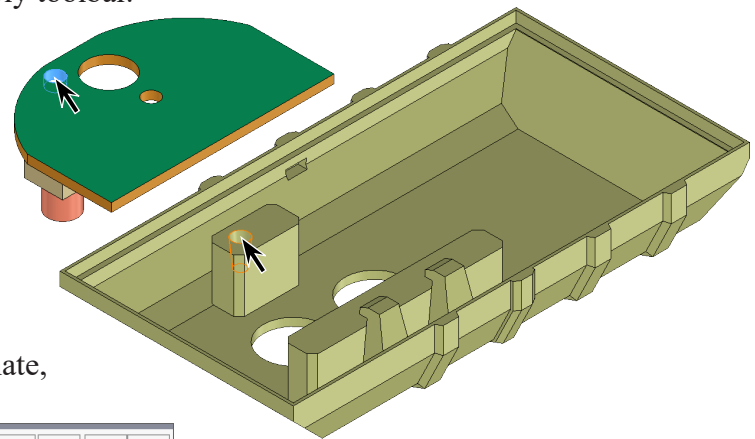

Fig. 3
Step 2. Click **cylindrical face of T Board screw hole** and **cylindrical face of Transmitter screw hole**, Fig. 3.